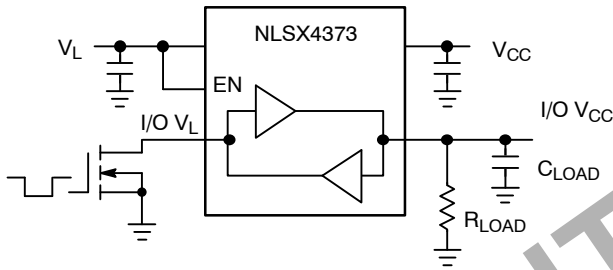

Figure 4. Open-Drain Driving I/O V_L
3. Typical values are for $V_{CC} = +3.3 \text{ V}$, $V_L = +1.8 \text{ V}$ and $T_A = +25^\circ\text{C}$.4. All units are production tested at $T_A = +25^\circ\text{C}$. Limits over the operating temperature range are guaranteed by design.**TIMING CHARACTERISTICS – OPEN DRAIN DRIVING CONFIGURATIONS**(I/O test circuit of Figures 4 and 5, $C_{LOAD} = 15 \text{ pF}$, driver output impedance $\leq 50 \Omega$, $R_{LOAD} = 1 \text{ M}\Omega$)